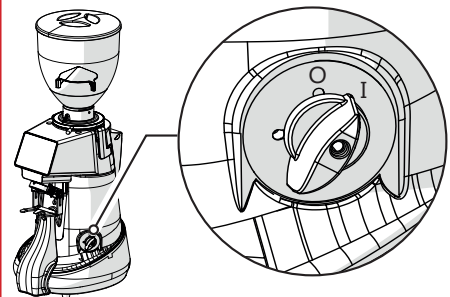

Fig. 14
- Turn the machine ignition switch to position "I" (Fig. 14).